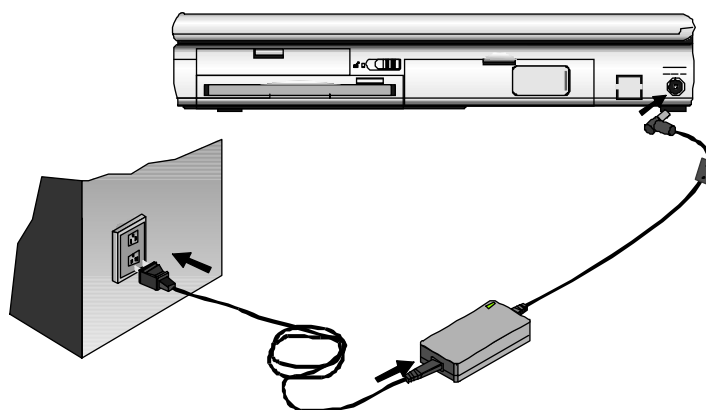

Figure 1-7: Connecting the AC adapter.
2. Connect the power cord to the AC adapter and then to a wall outlet. Refer to Figure 1-7.